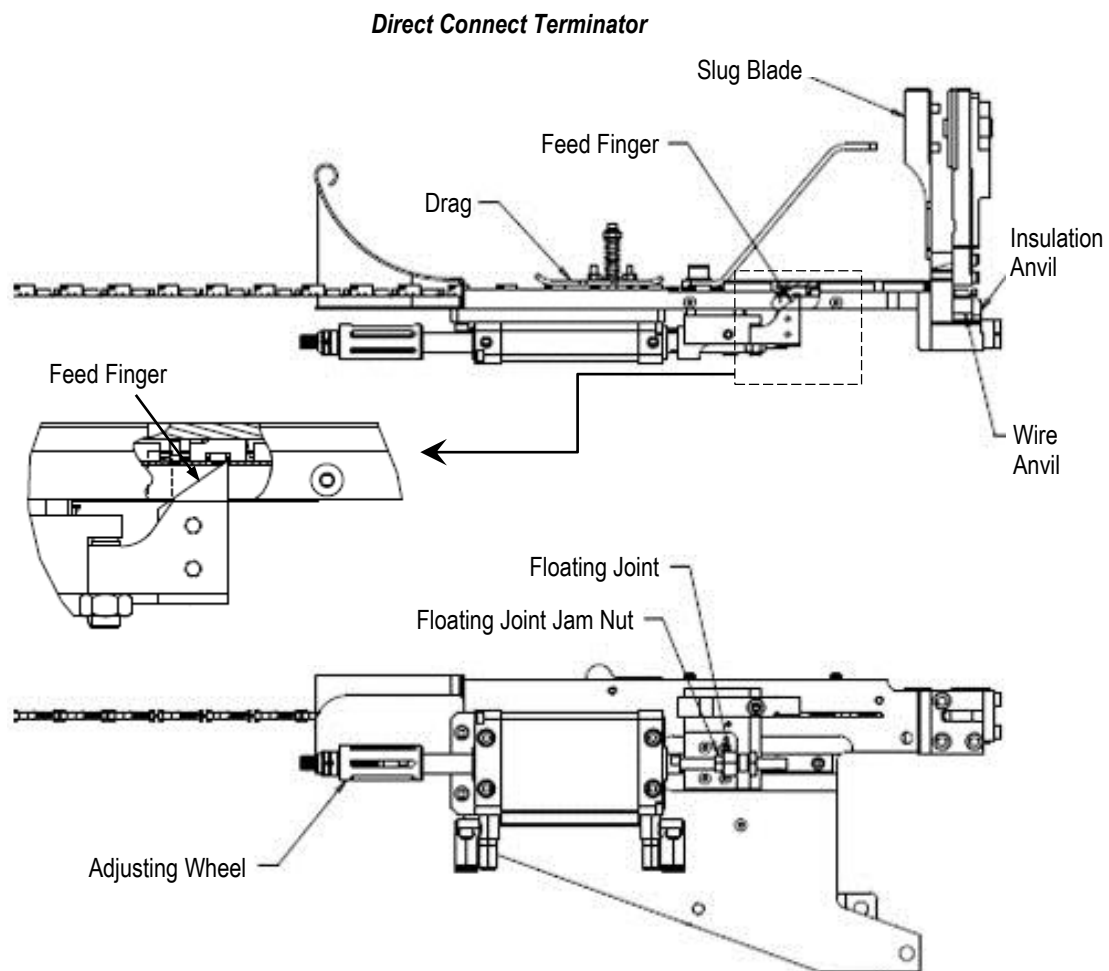

Figure 21
3. Push the terminal strip forward to ensure that the terminals “click” past the feed finger, and then pull back on the terminal strip to ensure that the feed finger engages the terminal strip firmly. See Figure 21.